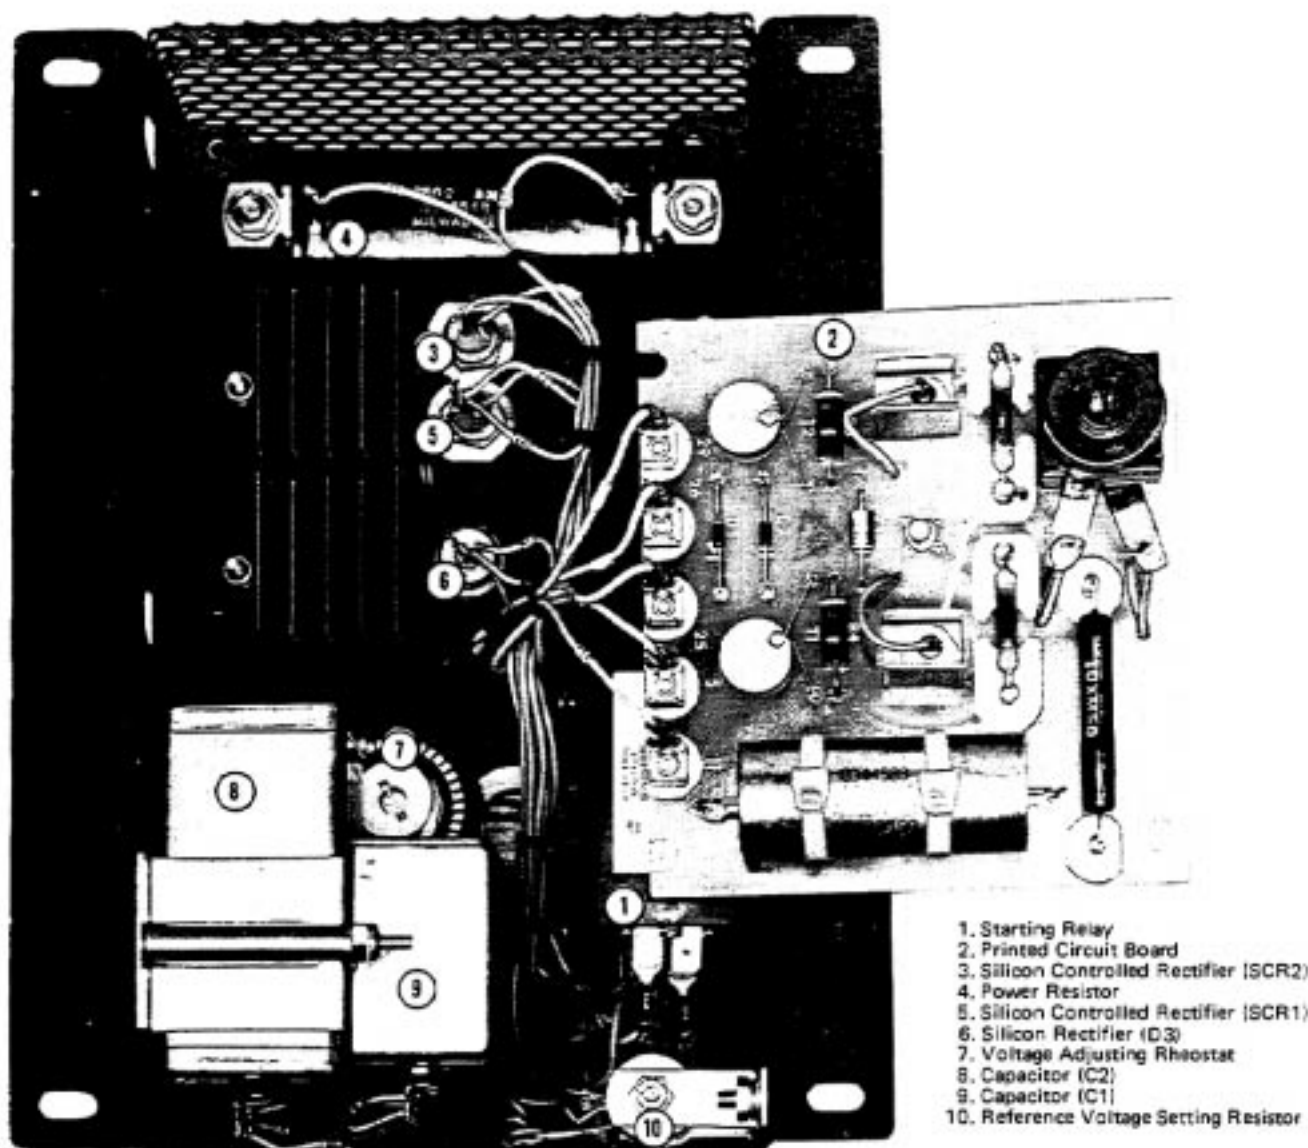
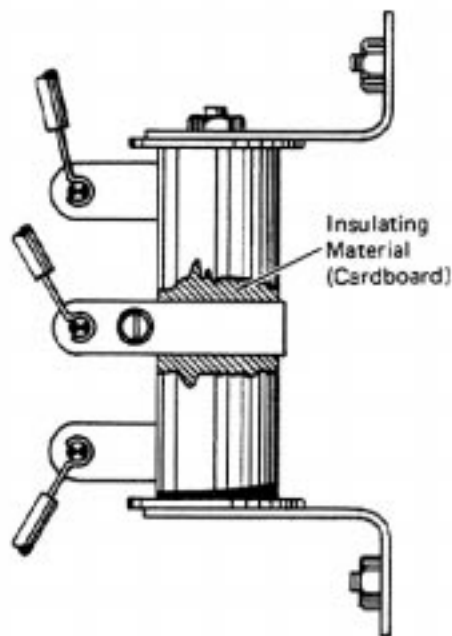

Fig. 13 - Parts Layout
Fig. 19 - Setting Reference Voltage Resistor For Maximum Resistance
6. On regulators equipped with 72 volt reference feature, check resistance of reference voltage setting resistor R1, Fig. 13. Insulate movable slider from wirewound element, Fig. 19. If ohmmeter does not indicate 90 to 110 ohms, R1 is defective and should be replaced.
9. Place circuit board, printed side down, on the starting relay and capacitors C2 and C3, Fig. 13. Place a piece of insulating material between circuit board and bare metal to prevent a short circuit.
12. On regulators equipped with 72 volt reference feature, attach a jumper wire, Fig. 21, across end terminals of reference voltage setting resistor R1, Fig. 13.
3. Remove all five wires connected to printed circuit board, remove board, Fig. 13.
5. Check silicon controlled rectifier SCR1, Fig. 13, using two battery test lights. See Service Data, and the following procedure.
8. Check silicon rectifier D3, Fig. 13, using a battery test light, see Service Data, and the following procedure.
15. On regulators equipped with 72 volt reference feature, check resistance of reference voltage setting resistor R1, Fig. 13. Insulate movable slider from wirewound element, Fig. 19. If ohmmeter does not indicate 90 to 110 ohms, R1 is defective and should be replaced.
18. Reconnect wires tagged 29, 26, 5, 11, and 25 to corresponding terminal on printed circuit board, Fig. 13.
20. Place circuit board, printed side down, on the starting relay and capacitors C2 and C3, Fig. 13. Place a piece of insulating material between circuit board and bare metal to prevent a short circuit.
23. On regulators equipped with 72 volt reference feature, attach a jumper wire, Fig. 21, across end terminals of reference voltage setting resistor R1, Fig. 13.